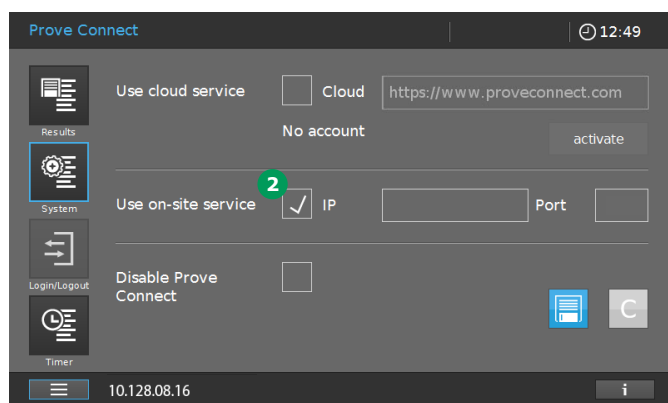

Figure 17 - After clicking on "Prove Connect" in the previous window (Figure 16), this window will appear.
2. Set the checkmark for Use on-site service 2 (Figure 17). Don't save or close this window yet.